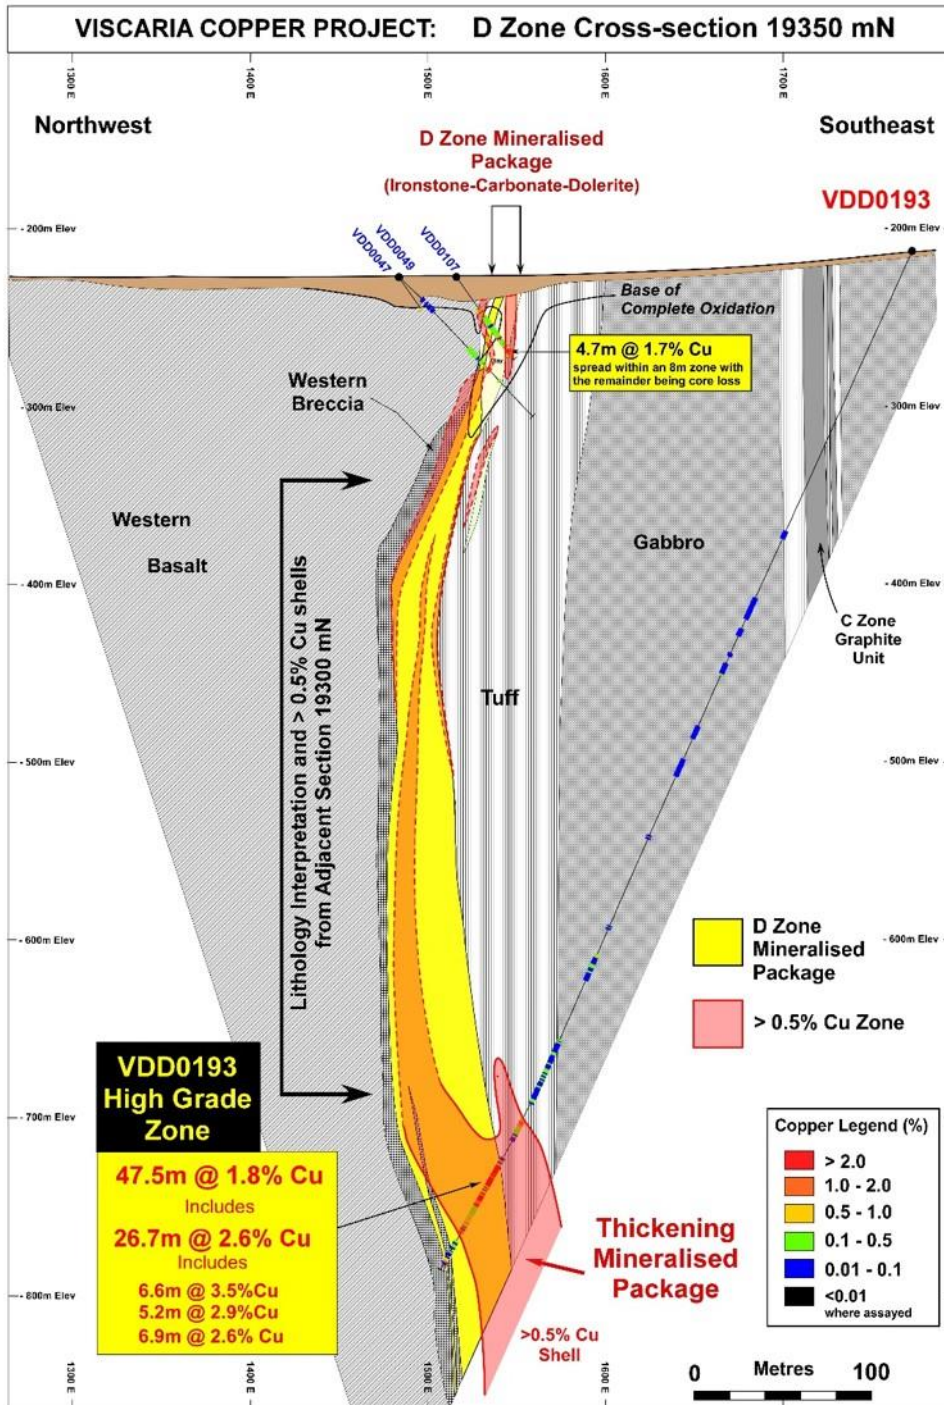

Figure 3: Drill hole cross section containing hole VDD 193.
- A broad variably mineralised zone grading **73.25m @ 1.29% Cu from 535.25m** hosted within ironstone, marble, tuff and altered basalts (Figure 3).